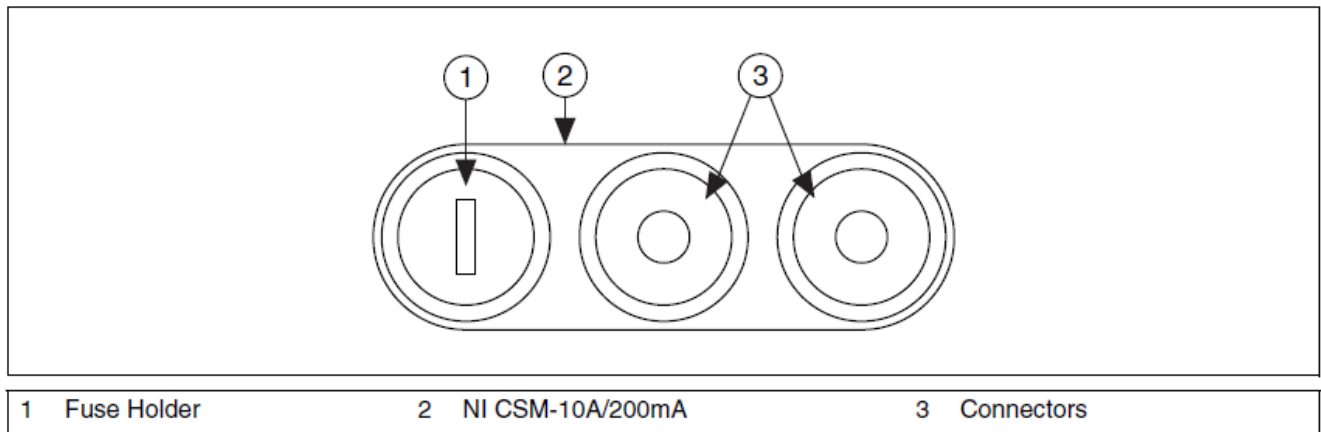

Figure 6. CSM Fuse Holder Location (Front View)
- Figure 6 shows the location of the fuse on the front panel of the CSM. The fuse protects the current shunt resistor if inputs exceed the maximum specified current rating provided in the Specifications section of this document.